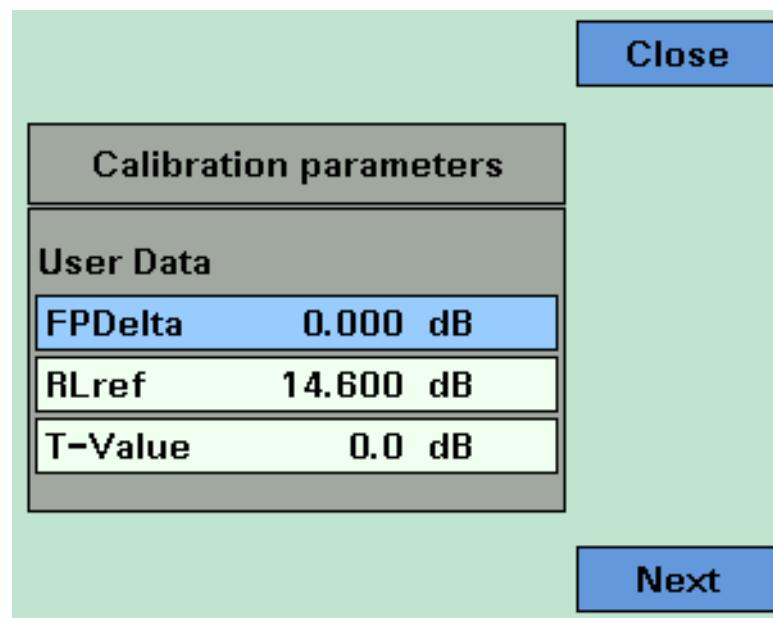

Figure 110 The Calibration Parameters Screens - User Data
- 3 Press [Next]. The *Calibration parameters* screen for *User Data* appears, as displayed in Figure 110 . This screen shows current value for the following quantities: